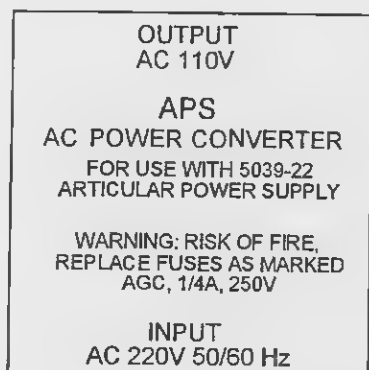

Figure 1-19. Transformer decal.
(11) A decal (located on the top of the transformer) is depicted in figure 1-19.